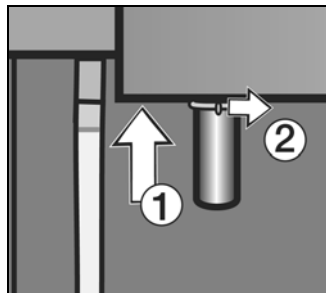

Figure 3-19: Reinstalling the Froth Dispenser
6. Push the froth dispenser into the machine from underneath (Figure 3-19, Item 1) and turn the cover above the spout to the right (Figure 3-19, Item 2).